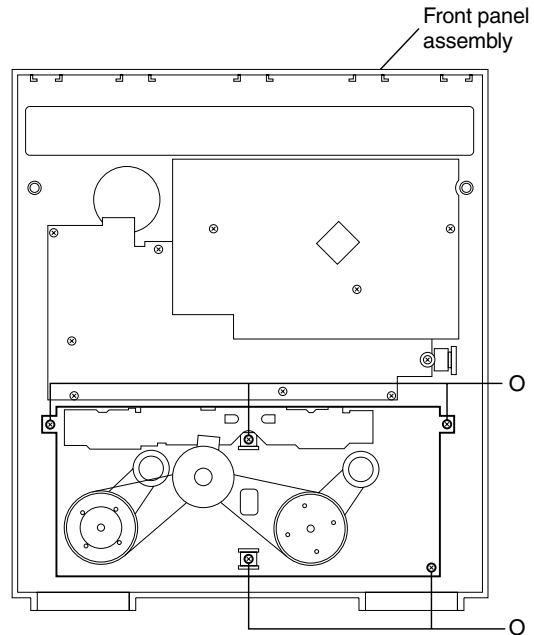

Fig.22
■ Removing the cassette deck mechanism (See Fig.22)
■ Removing the cassette deck main motor, and replacing the main belts (See Fig.22, 28 and 29)
■ Removing the leaf switches of the cassette deck mechanism (See Fig.22 and 30)
■ Removing the cassette deck heads (See Fig.22 and 31)